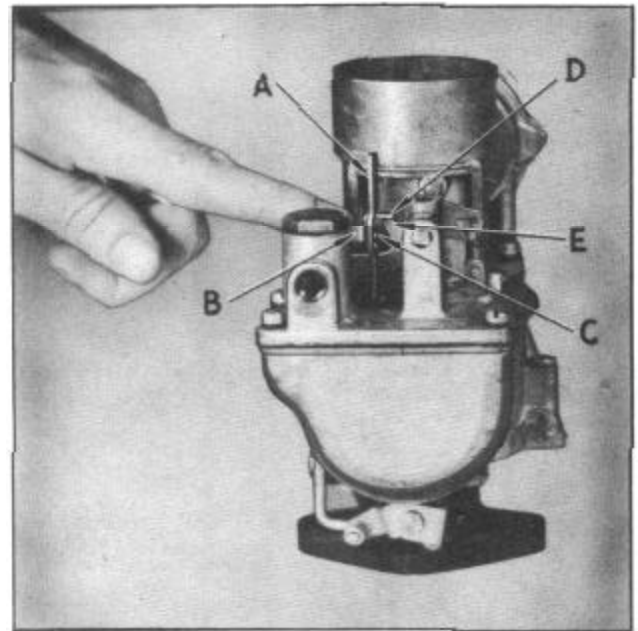

Figure 21 - Metering Rod Setting
1. Remove one metering rod and insert gauge J 1305 (2.280") in its place, see Figure 21.